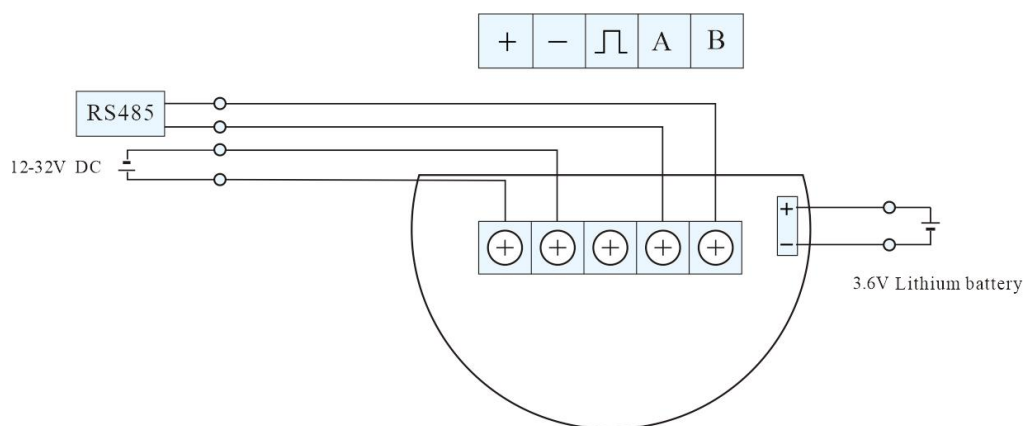

Fig.16
2. Dual power supply+485 communication (RS485 type) (Fig.16)